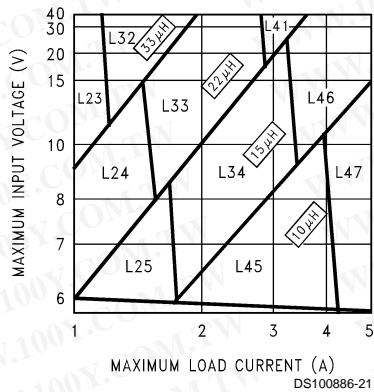
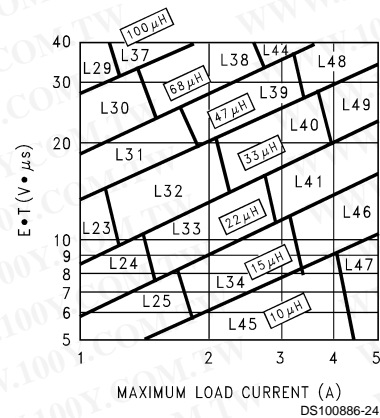

FIGURE 3. LM2678-3.3
FIGURE 6. LM2678-ADJ
Step 3: Determine the inductor required by using one of the four nomographs, *Figure 3* through *Figure 6*. Table 1 provides a specific manufacturer and part number for the inductor.
Step 5: Determine an input capacitor from Table 4 for fixed output voltage applications. Use Table 2 to find the specific capacitor type. For adjustable output circuits select a capacitor from Table 2 with a sufficient working voltage (WV) rating greater than $V_{in\ max}$, and an rms current rating greater than one-half the maximum load current (2 or more capacitors in parallel may be required).
Step 3: Use the nomograph for the 3.3V device, *Figure 3*. The intersection of the 16V horizontal line ($V_{in\ max}$) and the 4A vertical line ($I_{load\ max}$) indicates that L46, a 15 μ H inductor, is required.
Step 3: To use the nomograph for the adjustable device, Figure 6, requires a calculation of the inductor Volt•microsecond constant ($E \cdot T$ expressed in $V \cdot \mu s$) from the following formula:
Using Figure 6, the intersection of $27V \cdot \mu s$ horizontally and the 3.5A vertical line ($I_{load\ max}$) indicates that L48, a 47μH inductor, or L49, a 33μH inductor could be used. Either inductor will be suitable, but for this example selecting the larger inductance will result in lower ripple current.
Important Note: When using the adjustable device in low voltage applications (less than 3V output), if the nomograph, Figure 6, selects an inductance of 22μH or less, Table 6 does not provide an output capacitor solution. With these conditions the number of output capacitors required for stable operation becomes impractical. It is recommended to use either a 33μH or 47μH inductor and the output capacitors from Table 6.